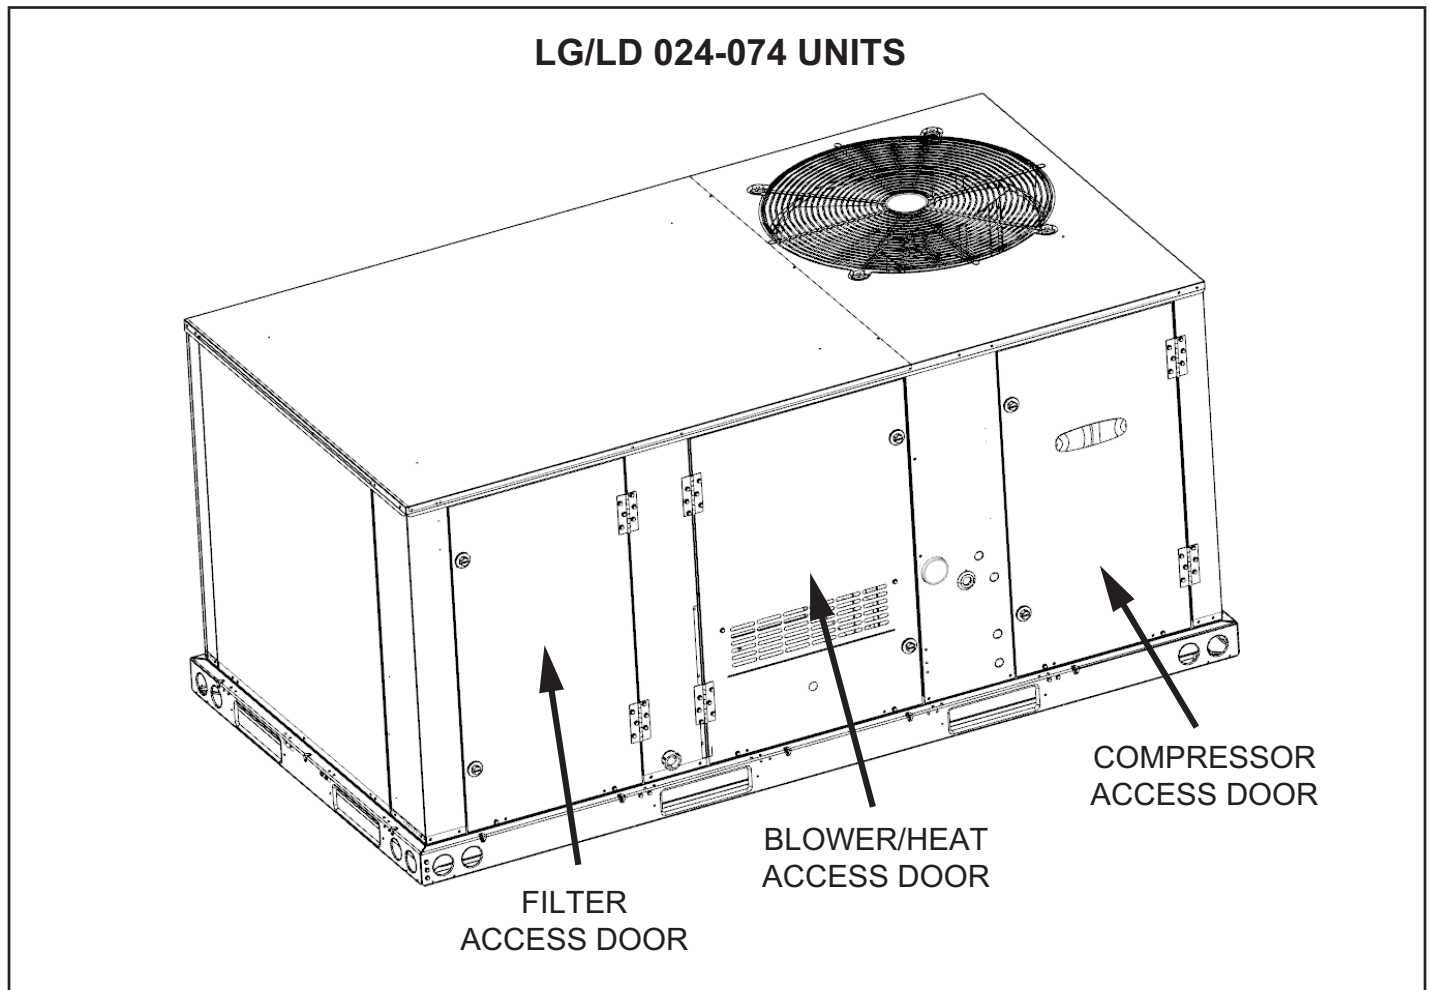

Figure 1
- 4 - Open the Compressor Access and Blower/Heat Access panels (Refer to Figure 1).